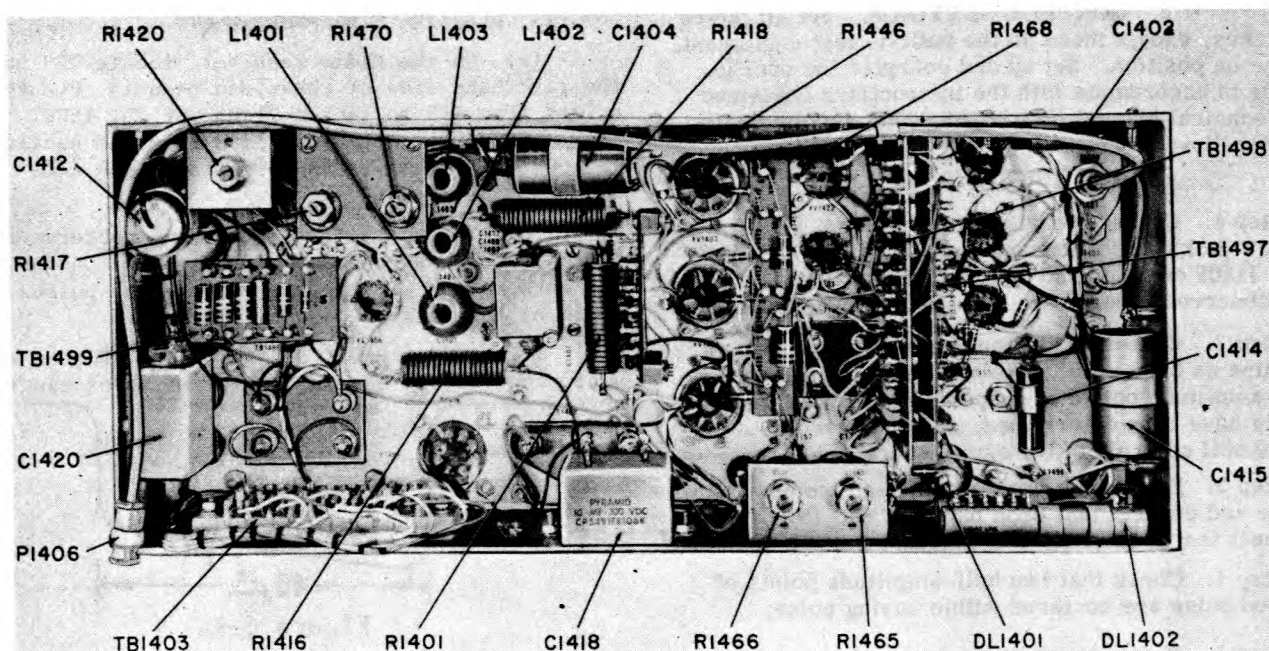

Figure 6-9. Frequency Multiplier-Oscillator CV-1171/GRN-9D, Video Chassis, Bottom View
Step 5. Measure pulse width at half-amplitude points. If it is not 2.6 ± 0.1 microseconds, adjust potentiometer R1466 on frequency multiplier-oscillator video chassis (figure 6-9) to obtain this pulse width.
Step 12. Coils L1401, L1402, and L1403 (figure 6-9) are adjusted to proper value of inductance at factory and are not to be adjusted in field. Note that the inductance values are given to two decimal places on schematic diagram, figure 6-18. Replacement of these coils is a function of depot maintenance. Before replacing coil in shaper network, check its value on inductance bridge capable of measuring inductance in the range of 1 to 5 millihenrys to an accuracy of 100th of a millihenry.
(3) KEYING PULSE CHECKS AND ADJUSTMENTS.
Step 5. If not, move lead connected to tap (terminals 3, 4, 5, or 6) on delay line DL1402 (see figure 6-9), to one of the other taps as necessary to meet requirement.